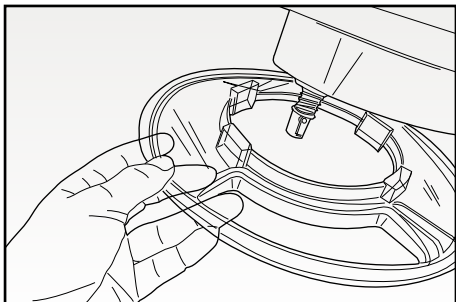

Fig. 4
- Insert the appropriate splash guard lid (N) onto the arm (A), by rotating it until it locks in place (Fig. 4) to prevent liquid food from spilling out.